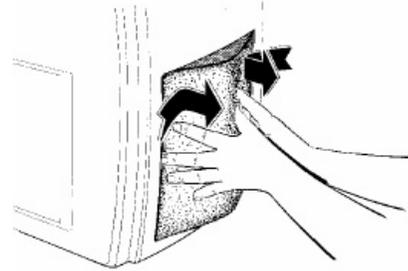

FIGURE 30
2. Remove filter (FIGURE 30) and clean it.